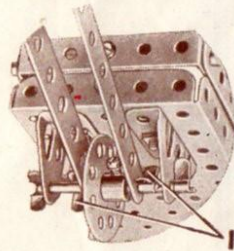

Fig. O.4a
The $5\frac{1}{2}$ " Strips forming the handle are placed one on each side of a Bush Wheel on the front axle, and they are held in place by Spring Clips (1), as shown in Fig. O.4a.